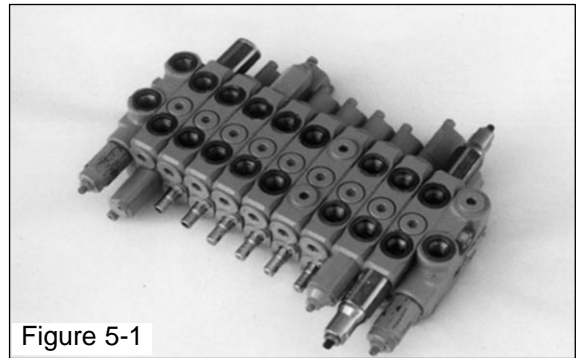

Figure 5-1
1. Detach and separate hydraulic lines and linkage from control valve. See Figure 5-1.